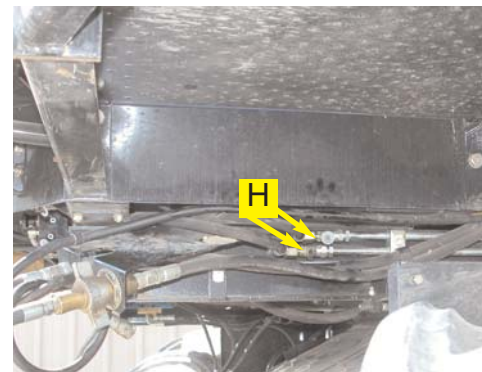

Figure 6b. Steering output fittings installed.
- b. Install the run tees (**H**) between the rubber and steel hydraulic lines. (Figure 6b.) Plastic caps placed on the open ends of the fittings will prevent excessive leakage prior to hose installation.